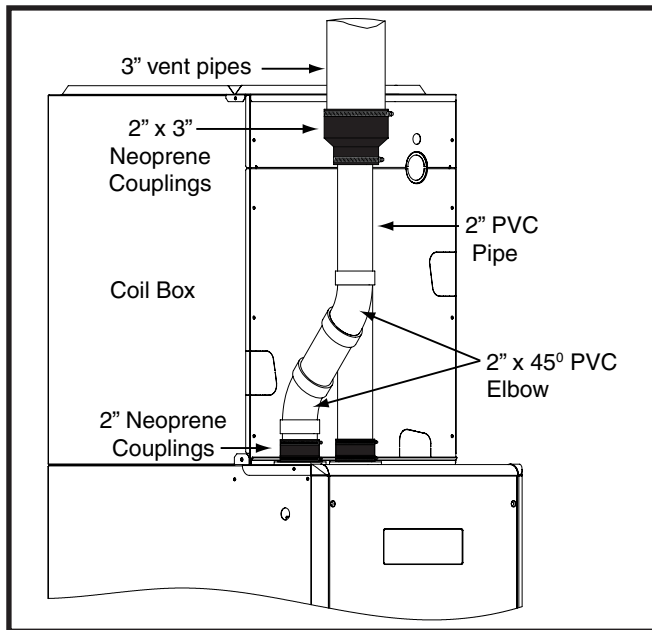

Figure 34. Alternate vent Pipe Installation
- To increase the size of the PVC flue from 2" to 3", you may use two, 2" x 45° PVC elbows to achieve the clearances needed between the coil box and the 2" x 3" neoprene coupling. See Figure 34.